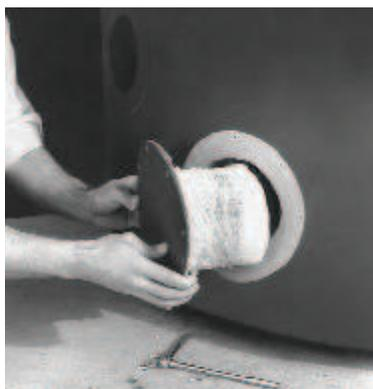

FIGURE 8 - REMOVING CLEAN OUT PLUGS
- » Remove clean-out plugs at lowest part of unit (See Figure 8) and clean the bottom of combustion chamber.